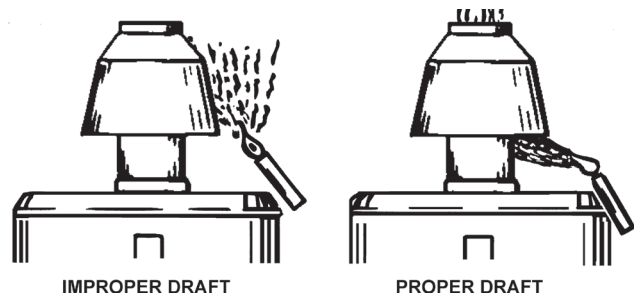

FIGURE 16. VENTING SYSTEM
3. Operate vent connected gas utilization equipment for several minutes and check to see that the combustion products are going up the chimney or gas vent properly by passing a lighted match or taper around the edge of the relief opening of the draft hood. If the chimney or gas vent is drawing properly, the match flame will be drawn into the draft hood. If not, the combustion products will tend to extinguish this flame. See Figure 16.